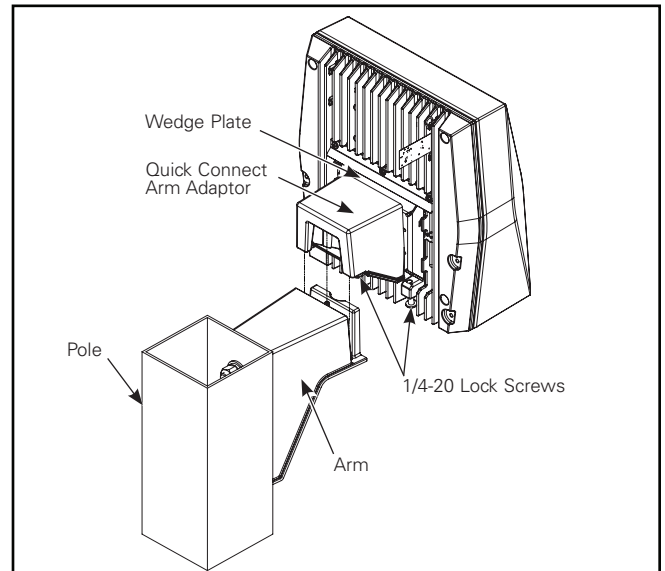

Figure 12.
4. Attach the quick-connect adapter to the fixture, pulling the luminaire supply leads through the wedge plate center hole. Tighten the (2) 1/4-20 lock screws on the fixture to 20 in-lbs. (Figure 12.)